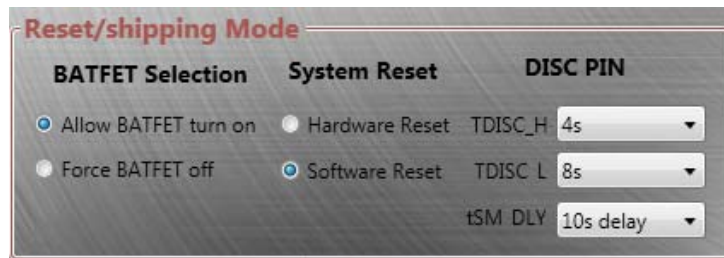

Figure 24: Shipping Mode Control
- Shipping mode control (see Figure 24).